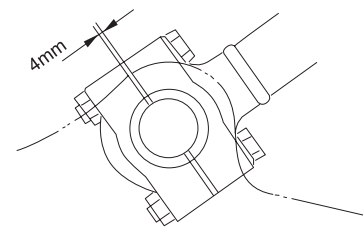

Figure 2-79
- The standard thickness of the adjustment gaskets between the blade lift cylinder's piston rod and cap is 4mm (Figure 2-79).